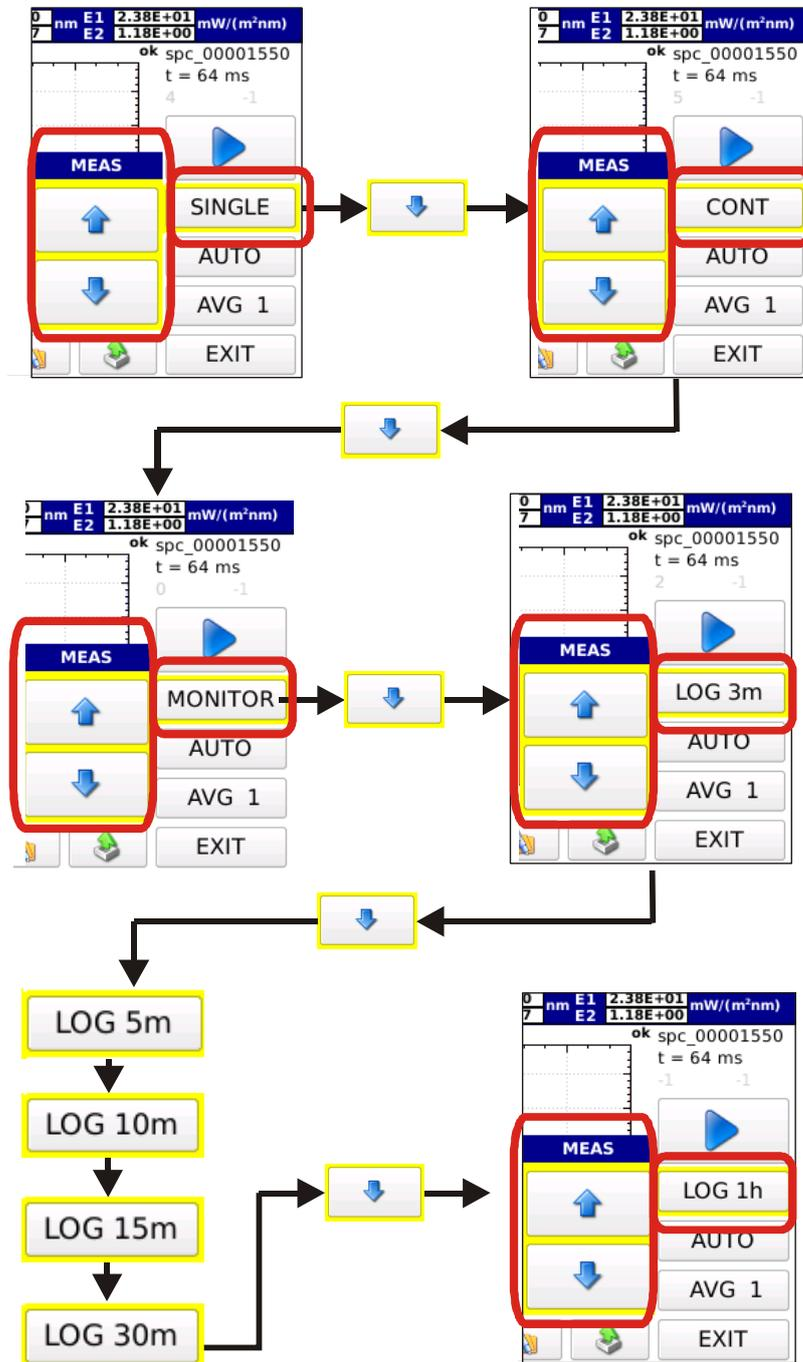

Fig 3.18: Select the operating mode using the arrow keys. Selection arrow keys disappear when pressing any other key.
3.3.1 Select the operating mode of the instrument among the four available modes (SINGLE, CONTINUE, MONITOR, LOGGING). Press **SINGLE** display two scroll cursors, press **↓** to change the operating mode as shown on figure 3.18.